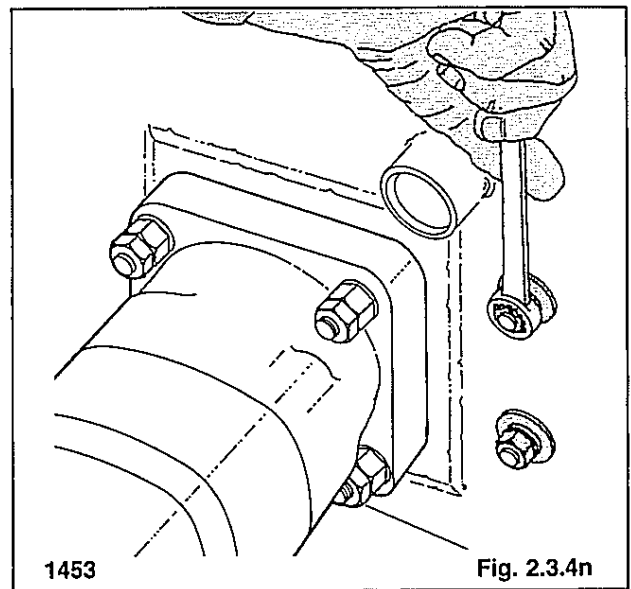

Fig. 2.3.4n
Install the bolt, lockwasher and plainwasher on the locking bar and secure it to the shaft assembly (fig. 2.3.4n).
13. Install the plainwashers, lockwashers and nuts on the bolt assembly where it protrudes on the inside of the loader (fig. 2.3.4n).